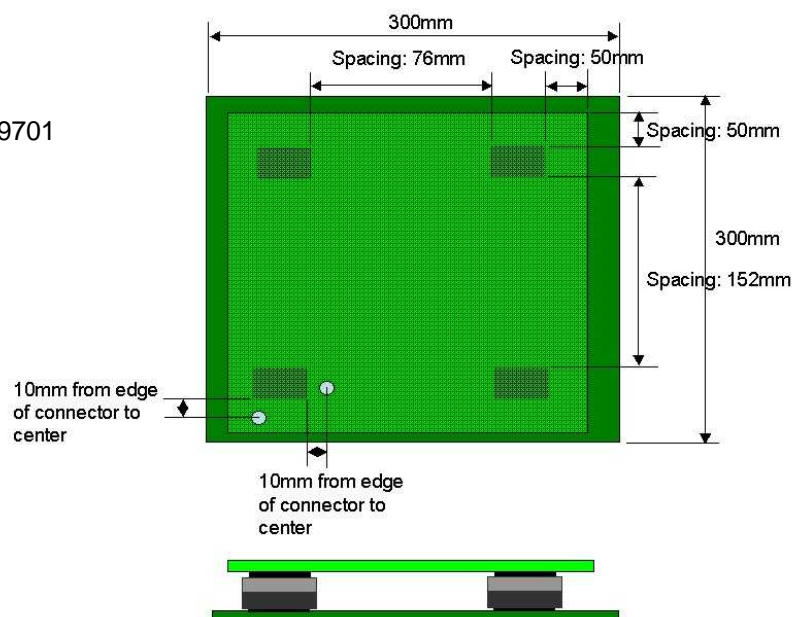

Fig.1
- *Specimens are assembled as Fig.1.